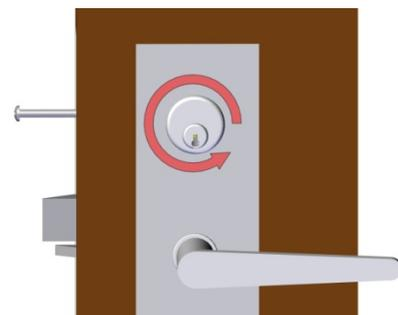

Fig. 3
- Using a key partially inserted, rotate the mortise cylinder counter-clockwise to remove it. Also remove any trim rings if they are used (Fig. 3).